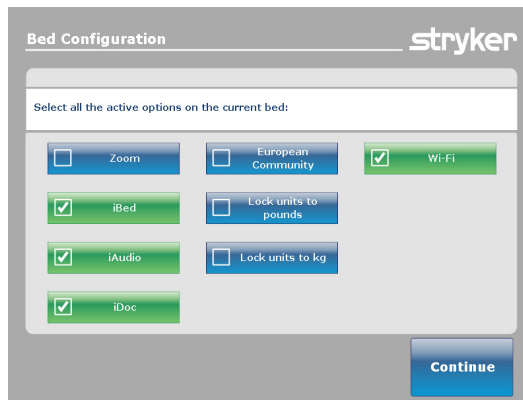

Figure 34: Bed Options screen
1. Press and hold the **HOB 30** button and the **BRAKE** button at the same time for 5 seconds, then release both buttons. The Bed Options screen (Figure 34) will be displayed.
**NOTE:** In Figure 34, the options selected are iBed, iAudio, iDoc and Wi-Fi. All of the options selected will turn green.